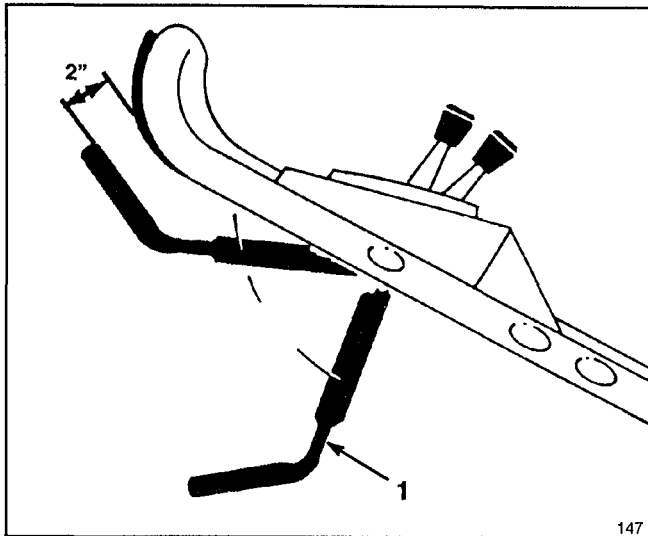

Figure 16
2. Push the control bar down to the lowest position (Fig. 16). This "latches" the mechanism prior to engaging the blade.
2. Push the control bar down to the lowest position (Fig. 16).